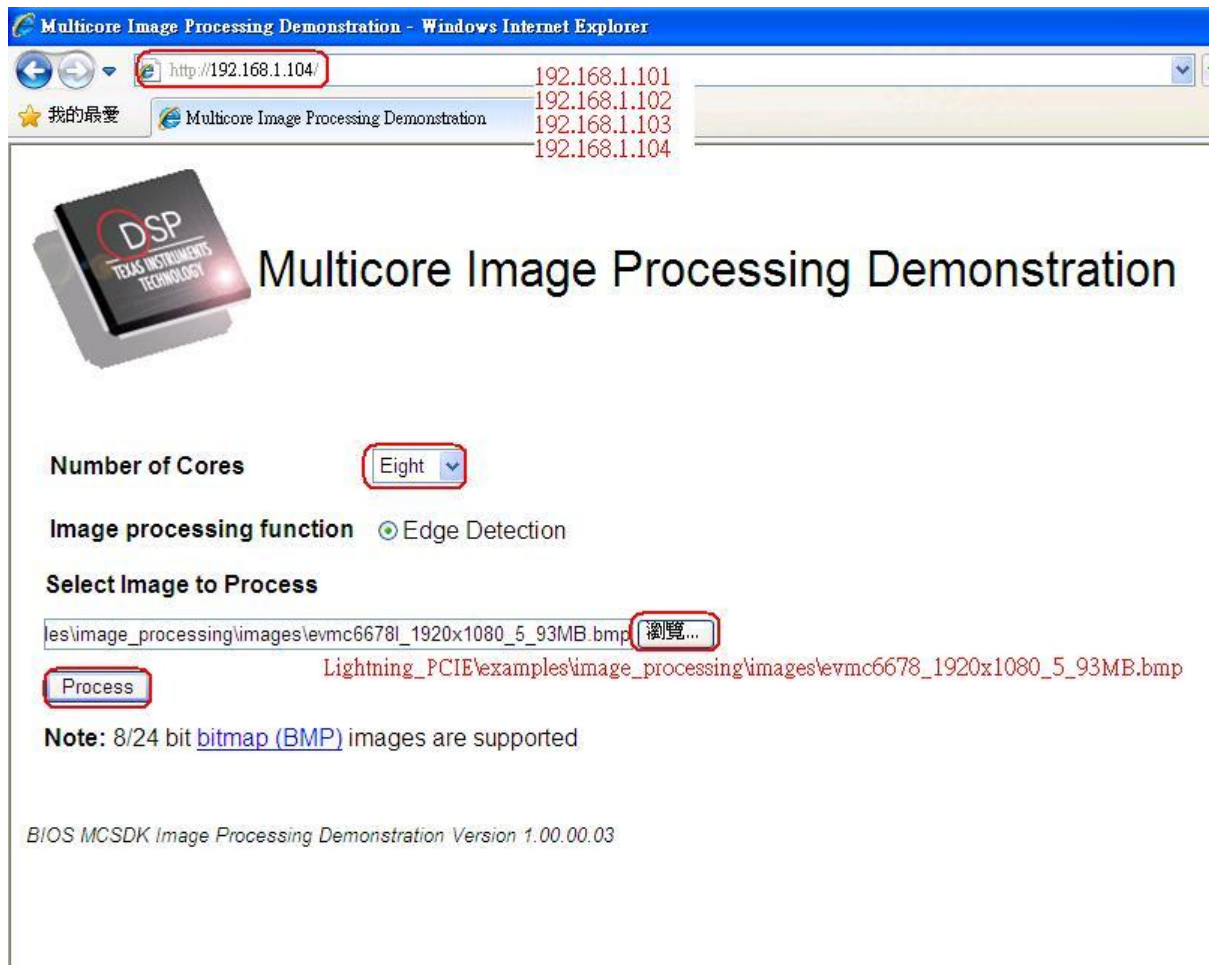

Figure 5-8 Image Processing Input Page
3. Please refer to the Figure 5-8. Input the BMP image form the internet browser. The URL of DSPs are <http://192.168.1.10X>, X=1~4. Select the number of core and image path for processing.